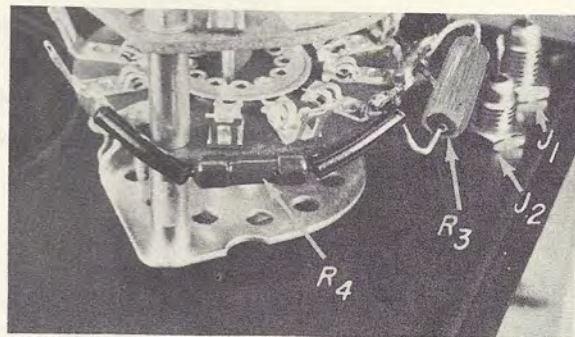

Fig. 3-11
Step 3. Solder one end of R_4 to S_1B_4 and connect the other end to S_1B_7 , as shown in Fig. 3-11. Be sure to keep the body of the resistor below the 5th and 6th lugs on the same deck, because in another lesson you will connect other resistors to these lugs. Also be sure that no part of the bare resistor lead touches the spacer post between the 6th and 7th lugs.